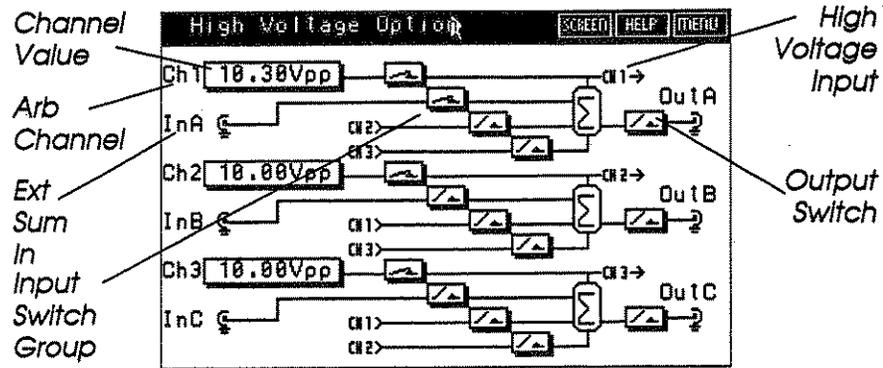

Figure G-5. High Voltage Option Screen
4. Select HIGH VOLTAGE from the OPTION screen. The Model 295 displays the High Voltage Option screen - figure G-5.
If an Arb Channel is not installed, the Channel Value field and its associated input switch will not be shown. High Voltage Input channel numbers appear on the screen in the Input Switch Group only when an initial channel is selected. Figure G-5 illustrates a unit with all three Arb Channels installed and selected on the screen; callouts in the figure only shows refers to the "A" amplifier section.